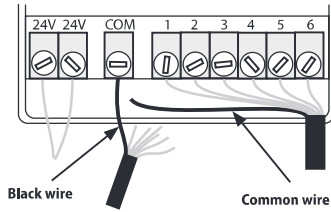

Figure 7
1. Disconnect the wire or wires that are connected to the "COM" (or Common) terminal on your controller. Connect the Black wire from the SMRT-Y user interface to the controller's COM terminal (see Figure 7).